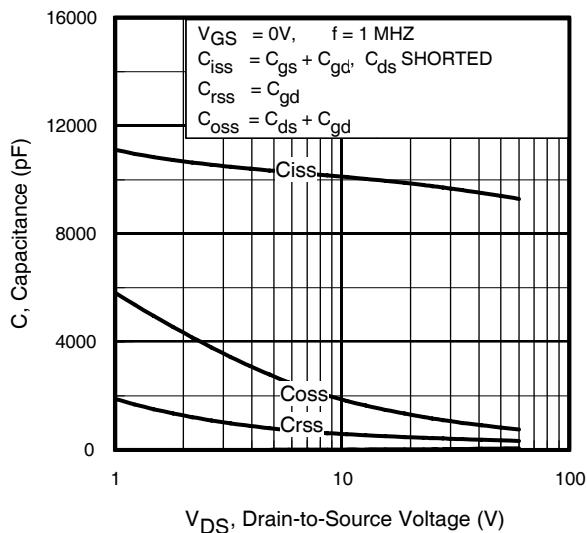

Fig 5. Typical Capacitance vs. Drain-to-Source Voltage
| $C_{oss \text{ eff. (TR)}}$ | Effective Output Capacitance (Time Related)④   | —    | 1260 | —    |       | $V_{GS} = 0V, V_{DS} = 0V \text{ to } 60V$ ⑥, See Fig. 5 |